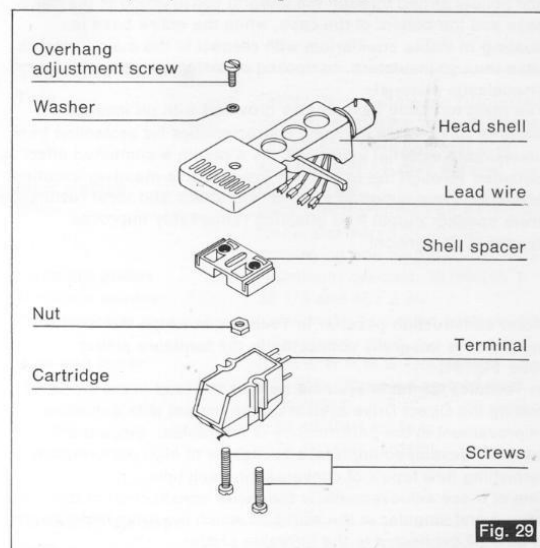

Fig. 29
⑨ Replacement of the cartridge (See Fig. 29.)